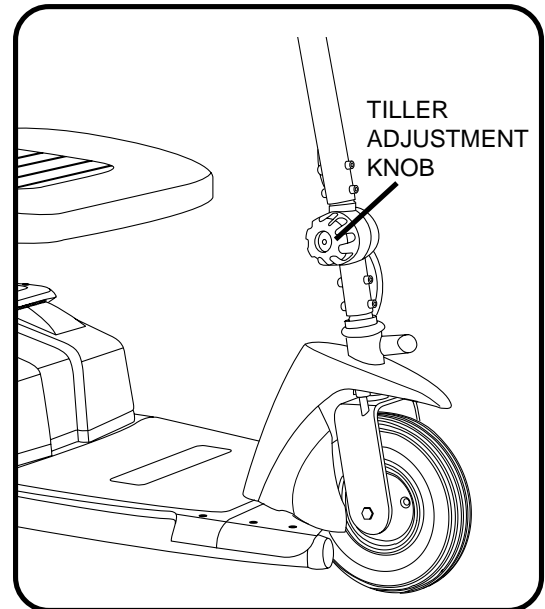

Figure 9. Tiller Adjustment
1. Turn the tiller adjustment knob anticlockwise to loosen the tiller. See figure 9.